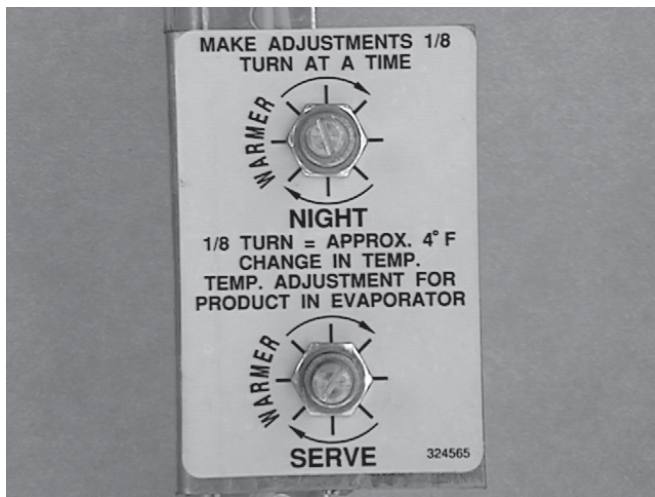

Figure 26. Potentiometer
- B. Use a screw driver to make desired adjustment. A label near the potentiometer will give complete instructions. Figure 26.